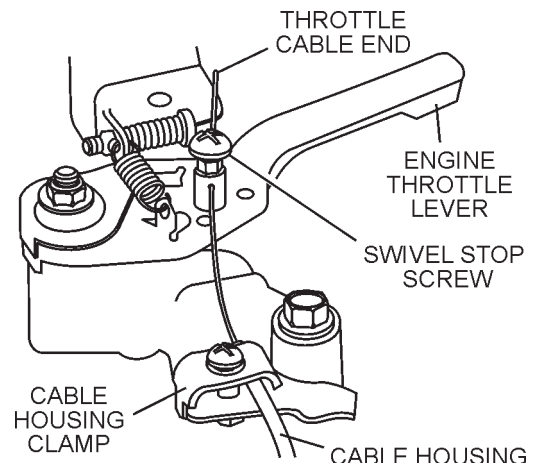

Figure 8. Throttle Cable Connection
3. Connect the throttle cable to the engine (Figure 8). There should be a piece of wire installed on the trowel to show where to route the throttle cable. When connecting the cable housing, make sure that no more than **1/4" (6.4mm)** of the cable housing protrudes past the housing clamp on the engine.